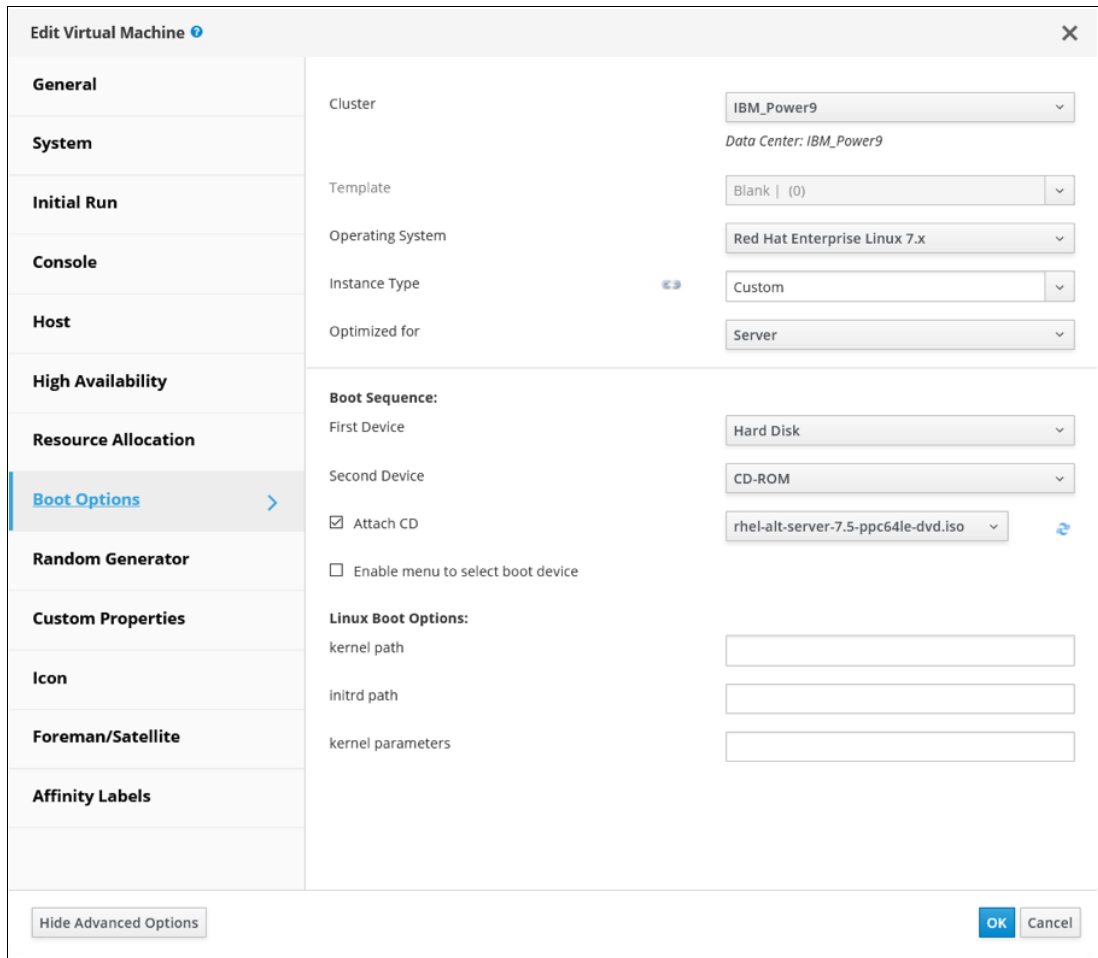

Figure 4-44 Edit Virtual Machine window: Boot Options
9. Complete the fields in the Boot Options window, as shown in Figure 4-44.